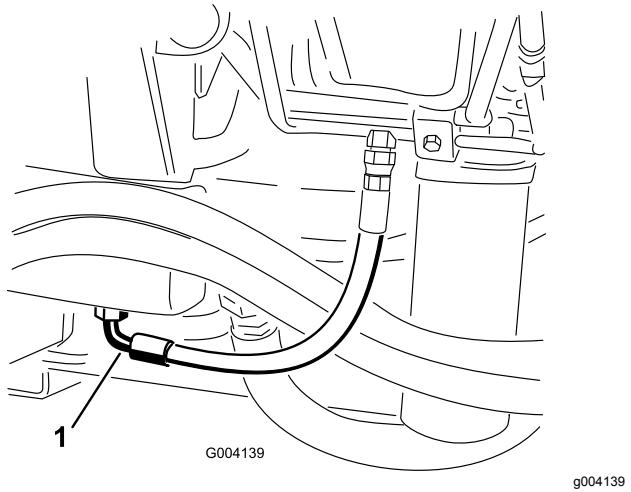

Figure 67
3. Place a large drain pan under the fitting secured to the bottom of the hydraulic-fluid reservoir (Figure 67).